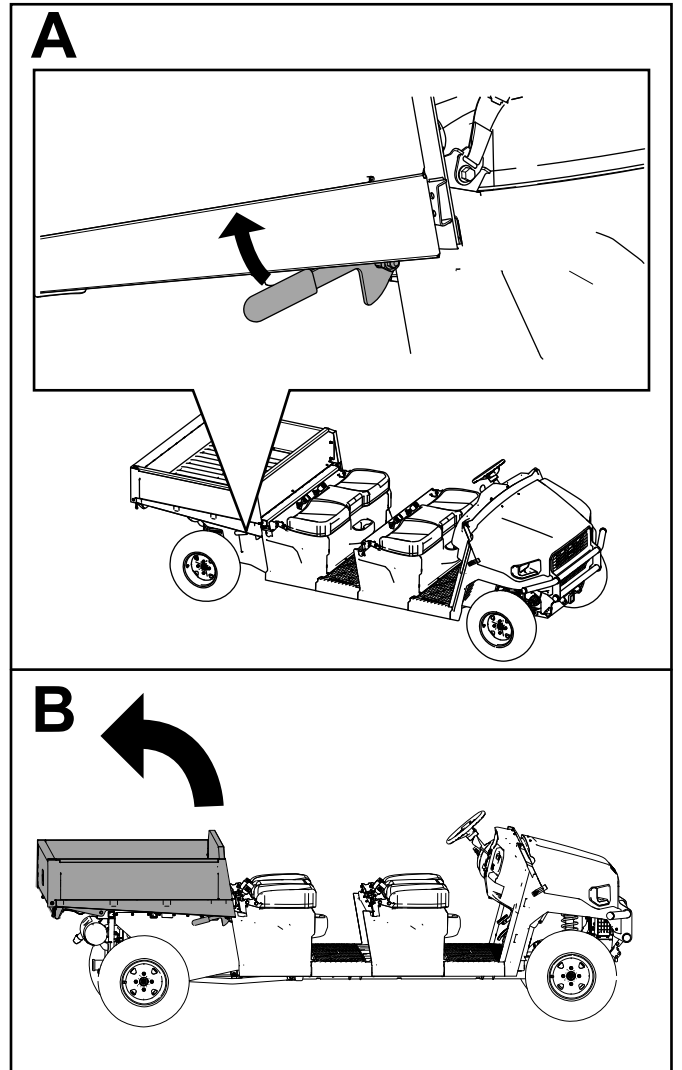

Figure 30
1. Raise the cargo bed (Figure 30).